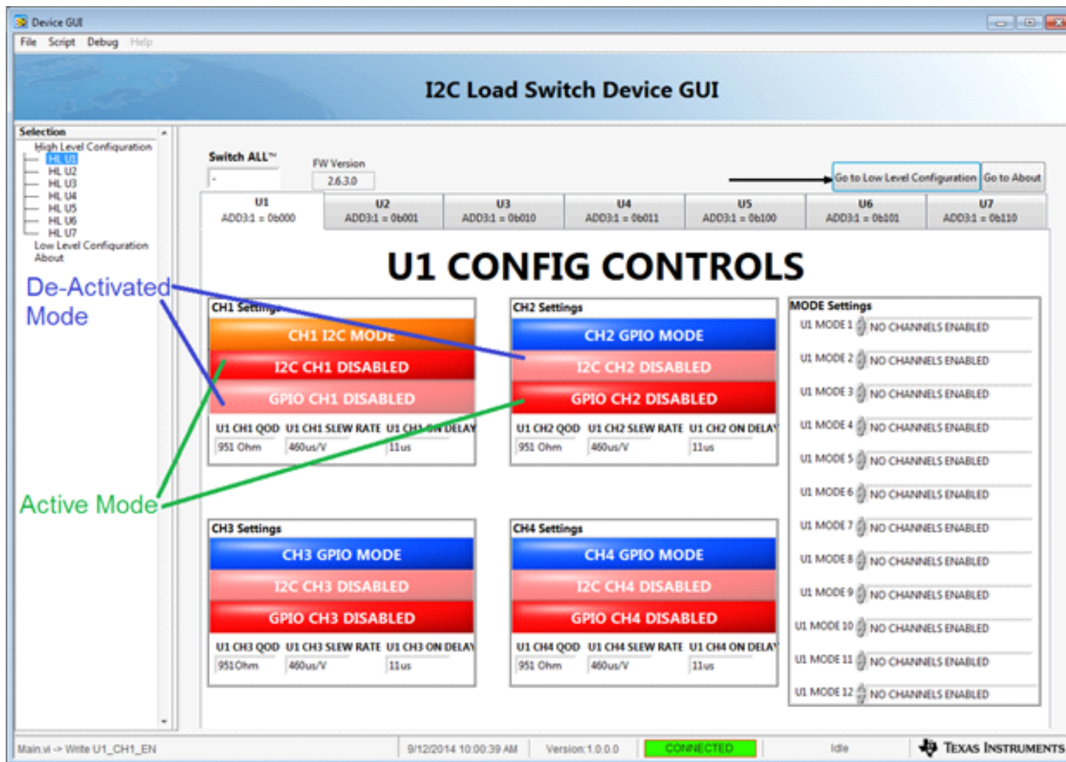

Figure 8. Set GPIO Mode or I²C Mode on Different Channels
- (A) The CHx GPIO Mode/I²C Mode Control will set the channel on that specific device to respond to either the GPIO Enable Pin or the I²C EN register bit. See Figure 8 showing CH1 and CH2 of U1 are set to the 2 different modes.
- (B) Also the disable/enable control for the alternate mode will become inactive to the user. In Figure 8, I²C CH1 Disable is pink which indicates this does not have an effect on the output of CH1 and this is the same for GPIO CH2 Disabled; the user will not be able to change the value on the high level page until the channel mode selection has been changed. Figure 8 shows the controls that are active and de-activated for CH1 and CH2.